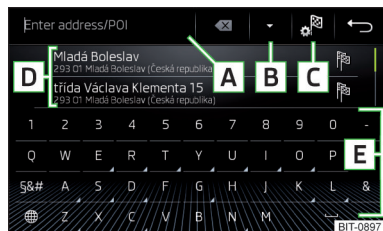
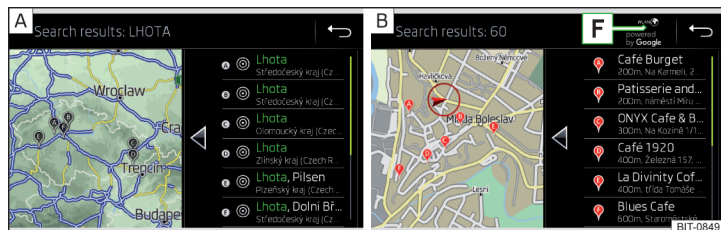

Fig. 170
Fig. 171 List of destinations visited: in the navigation data / online
Function surfaces » Fig. 170 and » Fig. 171
A list of the destinations found is displayed in area **D** » Fig. 170.
- ▶ **or:** Tap the **B** » Fig. 170 function surface.
- Destinations found in the navigation data » Fig. 171 - **A**.
- Destinations found online » Fig. 171 - **B**.